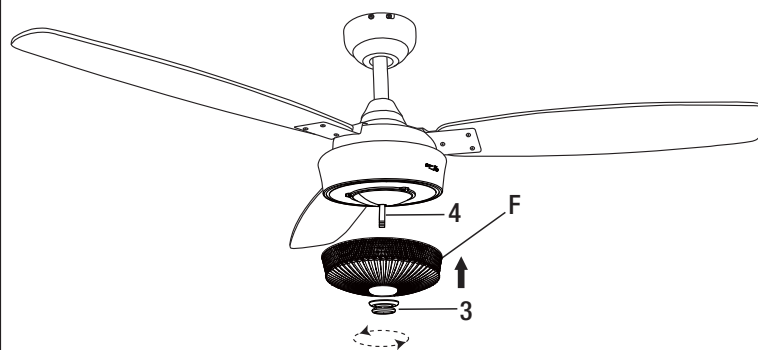

Figure 17
- Remove the finial cap (3) from the threaded rod (4) on the light kit. Lift the lamp shade (F) over the threaded rod on the light kit. Screw the finial cap onto the threaded rod of the light kit to secure the lamp shade (F). (Figure 17)